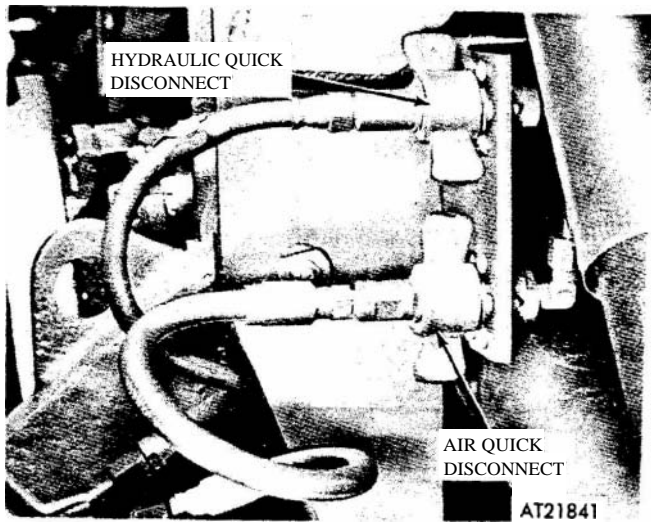
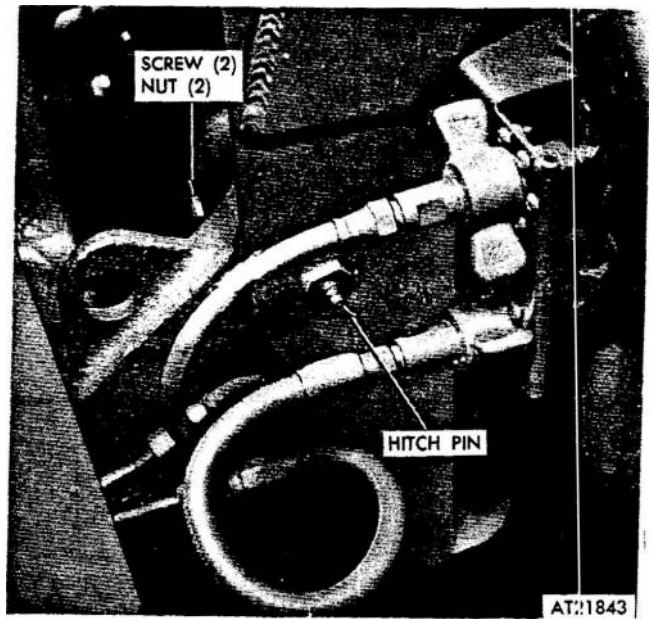

Figure 2-188. Tractor to carrier air and hydraulic quick disconnects.
Figure 2-190. Hitch pin removal and installation.
(1) Disconnect hydraulic and air lines between tractor and carrier (fig 2-188) and electrical cable quick disconnect (**fig** 2-189).
(2) Block carrier wheels and one front corner of carrier.
(3) Place a suitable jack under the opposite front corner and raise carrier until tension is removed from hitch pins.
(4) Remove screws and nuts securing hitch pins in yoke and drive out hitch pins (fig 2-190).
(25) Raise or lower jack under carrier front corner and align the holes in tractor hitch with holes in carrier hitch yoke.
(26) Insert hitch pins through hitch assembly and secure with screws and nuts (fig 2-190).